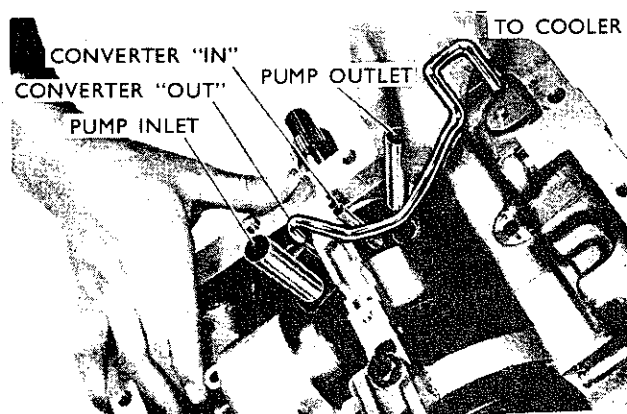

Fig. 54—Location of tubes
(1) Install the tube connecting the cooler line in casing from the pump adapter drilling (converter "OUT") (Refer Fig. 54).
(2) Install the pick-up tube O-ring on intake tube swaged end which is inserted into the pump adapter.
(3) Install the tubes as shown in Fig. 54.